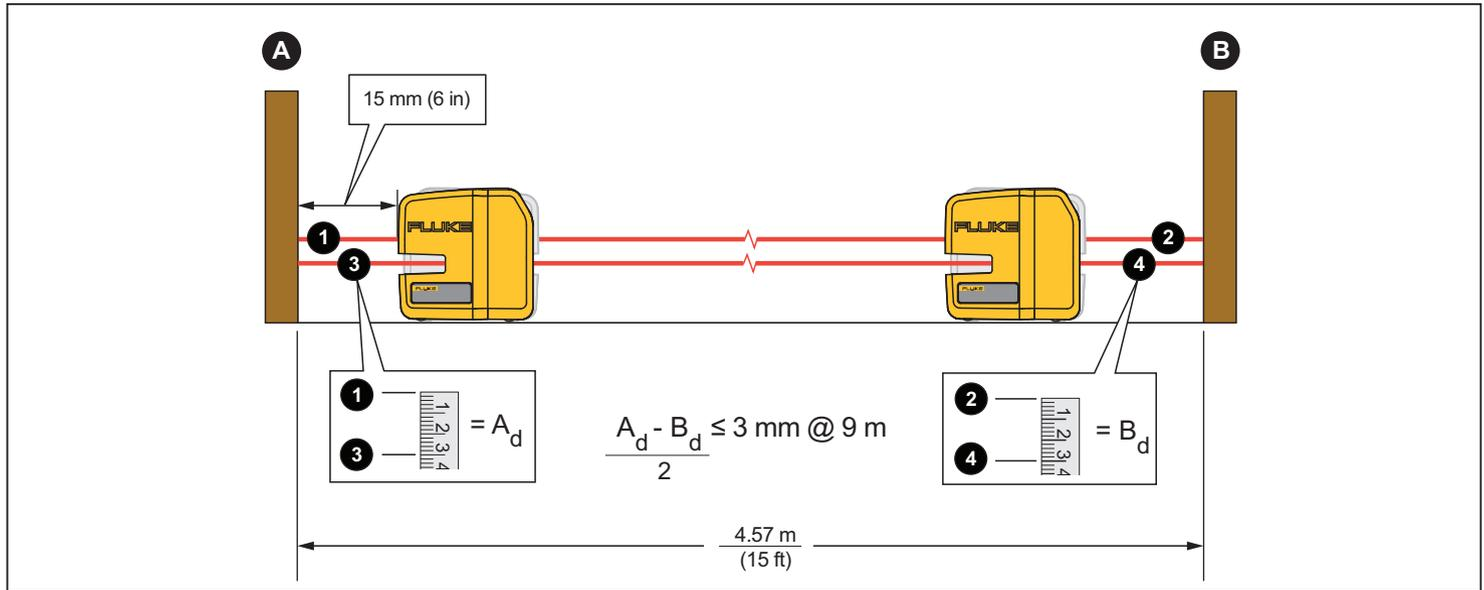

Figure 5. Horizontal Laser Accuracy
1. Find a horizontal site that is almost level, preferably a concrete slab, that is ≥ 7.62 m (25 ft) wide with two opposing walls to use as targets. You can also use scrap wood as targets. See Figure 5.